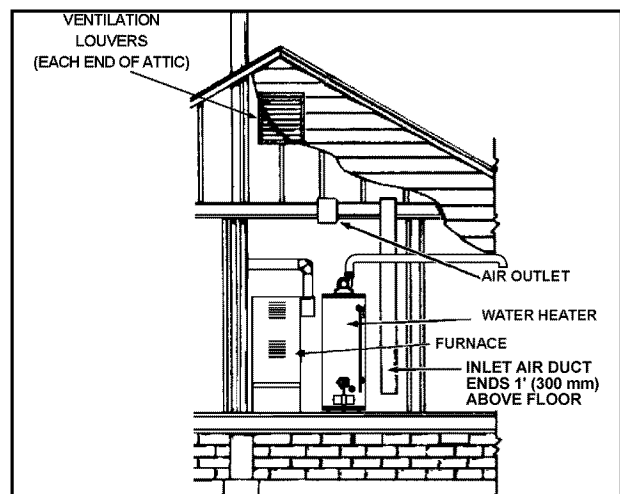

Figure 17
2. When communicating with the outdoors through vertical ducts, each opening shall have a minimum free area of 1 square inch per 4,000 Btu/hr (5.5cm2/kW) of total input rating of all equipment in the enclosure (see Figure 17).